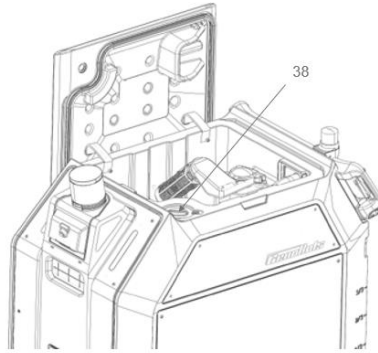

FIG.31
- 2) Open the solution tank cap as shown in FIG.31.